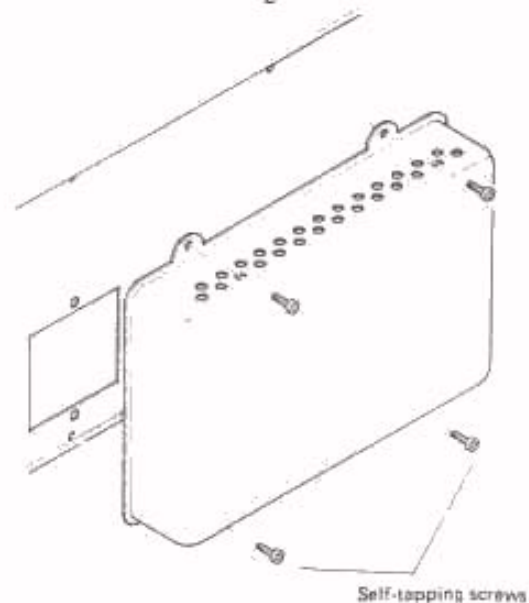

Figure 4
- (3) Mount the Memory Unit with the supplied self-tapping screws (4 pcs), as shown in Fig. 4, being sure that no wire from inside the unit is protruding.